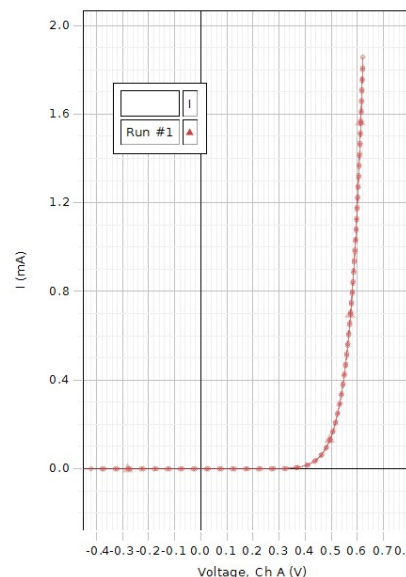
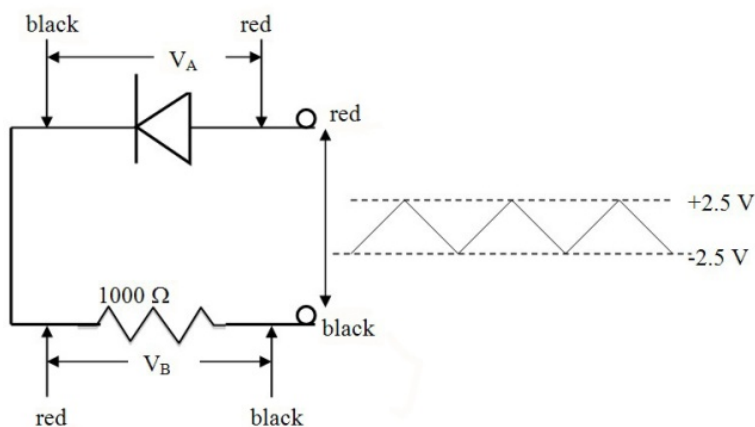

Figure 1: Characteristic Curve
Figure 2: Diode Circuit
A diode (or p-n junction rectifier) is an electronic device which allows current to flow in only one direction. As can be seen in the characteristic curve of the diode in Figure 1, when the voltage drop across the diode is negative (called reverse bias), no current flows (except for a very small reverse current). When the voltage becomes positive, no current flows until a “turn on” voltage is exceeded (for the case shown at about 0.5 V). From then on a very small increase in voltage results in a very large increase in current. Note that here we have defined positive voltage to be that which causes current flow. In terms of a circuit diagram an arrow is used to indicate a diode as in Figure 2, and current flows only in the direction of the arrow. So current would flow if the red side of V_A was positive with respect to the black side by more than about 0.5 V. From Figure 1 it is clear that the “turn on” voltage is somewhat arbitrary and we take it to be the voltage where the current exceeds 2.0 mA.
1. Setup the circuit shown in Figures 2, 3 & 4 using the $1000\ \Omega$ (brown-black-red-gold) resistor between the spring clips. The gold band on the resistor means it is accurate to within 5% ($1000 \pm 50\ \Omega$), but it is probably much better. The gray band (cathode end) on the diode should be to the left away from the positive (red) terminal.